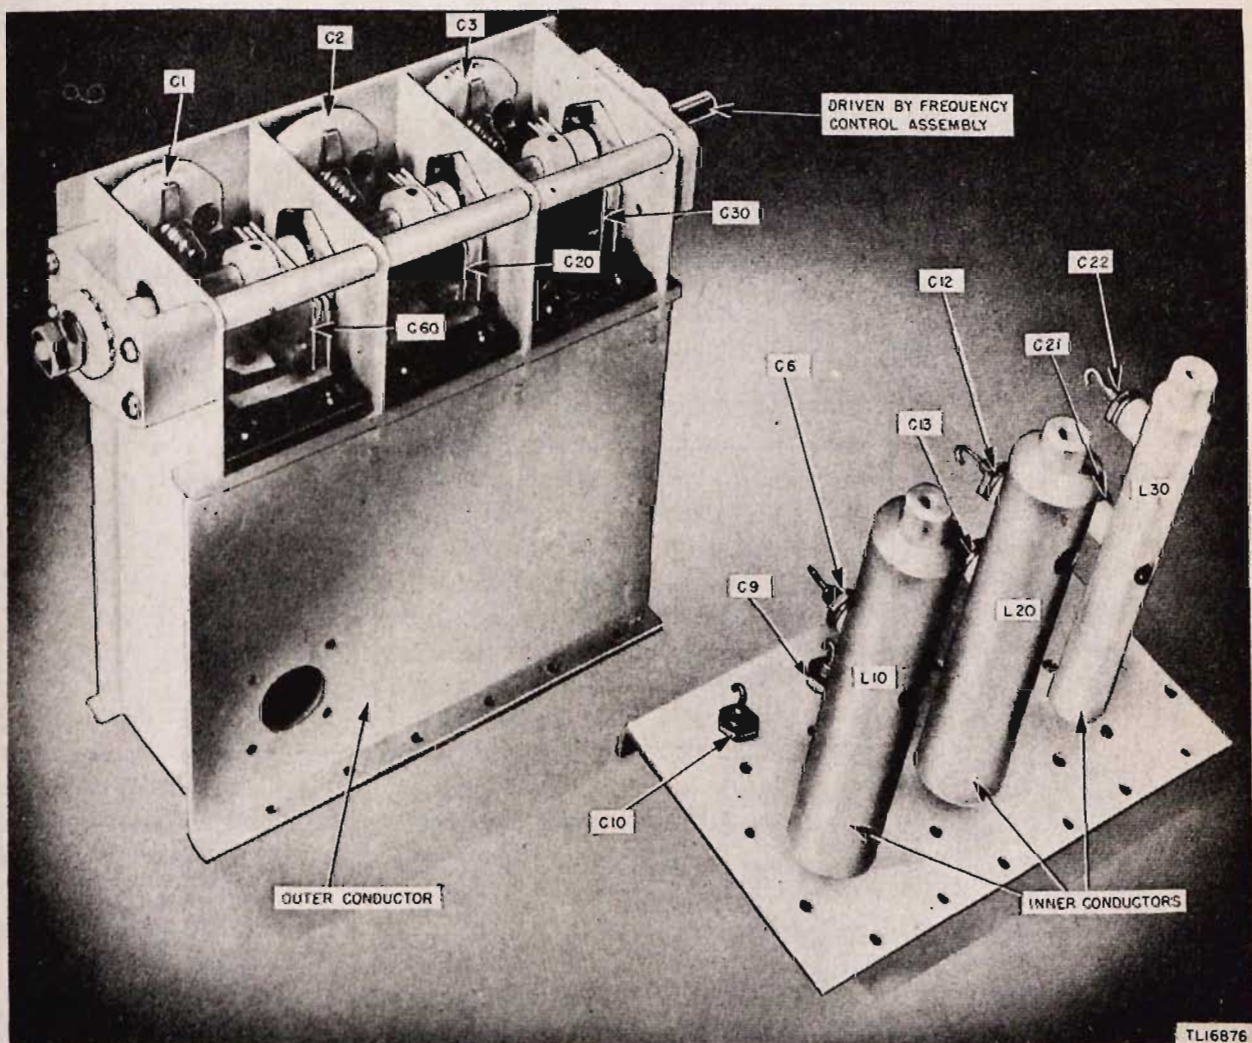
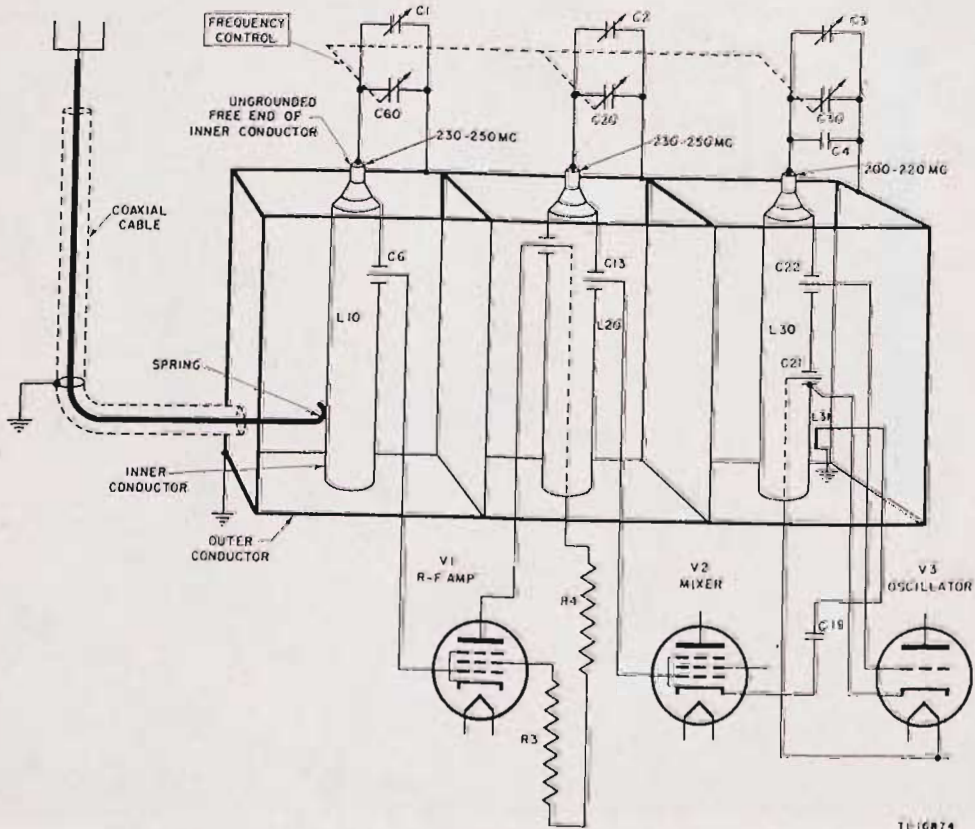

Figure 94. Radio Receiver R-48/TRC-8 (XC-3), r-f unit.
Figure 95. Radio Receiver R-48/TRC-8 (XC-3), mechanical equivalent of r-f unit.
signed may be substituted for the ordinary coil and capacitor circuits. At high frequencies, current flows on the outside of the inner conductor and on the inside of the outer conductor due to skin effect so that there is no radiation from a concentric line. It is, therefore, a very high Q circuit element. High Q circuits are necessary to provide amplifier gain, selectivity, and frequency stability of the mixer oscillator. A shorted quarter-wavelength line has a low impedance at the shorted end and a high impedance at the open end. The line can be made somewhat shorter than a quarter wavelength by replacing part of it with a capacitor, but the open end impedance will be slightly reduced. Concentric lines are used in the r-f amplifier, oscillator, and mixer stages. Figure 94 shows the r-f unit. The outer conductors, shown at the left, fit over the inner conductors, shown at the right. Figure 95 is a mechanical equivalent of the three r-f tuned circuits. Corresponding parts may be located by reference to figure 96. The concentric lines used in the three r-f tuned circuits are each composed of an inner conductor, which is a tube substantially shorter than $\frac{1}{4}$ wavelength, and an outer conductor of square cross-section which sur-
c. Feed-through Capacitors. (1) Capacitors C6, C7, C8, C10, C11, C12, C13, C14, C18, C21, C22, and C24 serve as conventional bypass and coupling capacitors in the r-f section of the receiver (fig. 94). In their electrical functioning, they are identical with the usual capacitor which consists of two conducting plates (electrodes), separated by a nonconducting dielectric, which may be air, paper, oil, ceramic, etc. These capacitors, however, are quite unconventional in their mechanical construction and are referred to as feed-through capacitors.